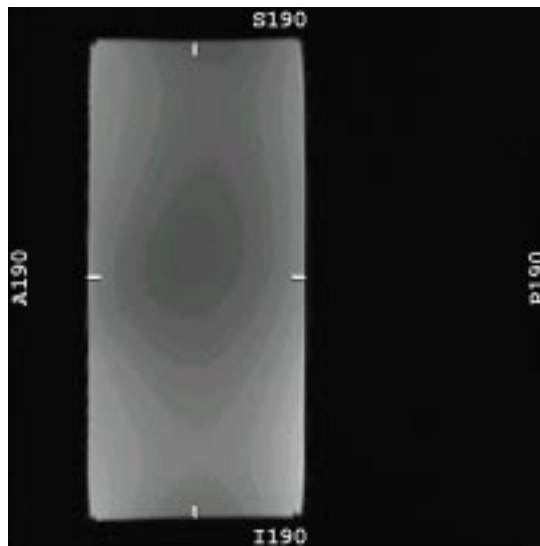

Figure 11: Preparation for signal region of interest.
- Step 2 -- Use the measure distance feature to place four lines, each 5mm long at the approximate center of each edge of the phantom as shown in *Figure 11*. Note that the lines extend from the edge of the phantom toward the interior. LX systems: ends of lines are at the center of the little boxes used to adjust line size. Genesis systems: ends of lines are at the center of the crosshair cursor.